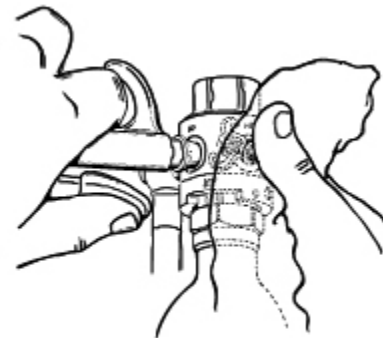

Fig. 4 - Burst disc removal
1. Apply an 11/16" open-end wrench to the flats of the pressure gauge assembly (14), and turn the gauge counterclockwise to loosen and remove from the first stage. Remove and discard the O-ring (13), and set the pressure gauge assembly aside.
3. Check to ensure that the H.A.B.D. valve is closed to the "OFF" position. While holding a shop rag over the first stage to cover the open HP port of the safety plug, direct low pressure air (120-140 psi) through the open HP port to dislodge the safety disc (11b) and gasket (11a) of the safety burst disc assembly (11). (See Figure 4). Remove the shop rag to allow the safety disc and gasket to fall out of the first stage body. Discard these items and do not reuse.